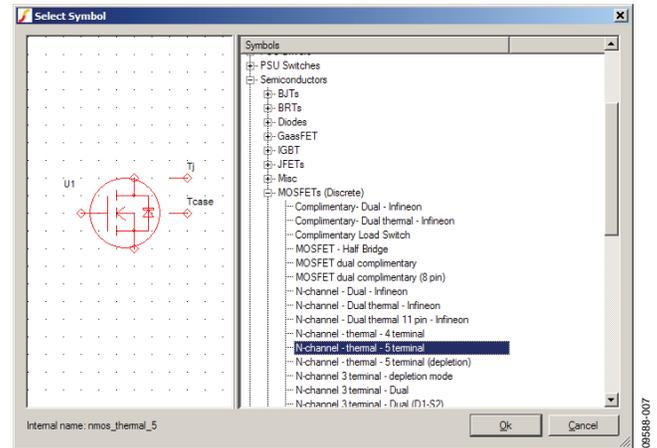

Figure 9. Symbol Library
2. In the symbol tree, choose **Semiconductors > MOSFETs (Discrete) > N-channel - thermal - 5 terminal** (see Figure 9).